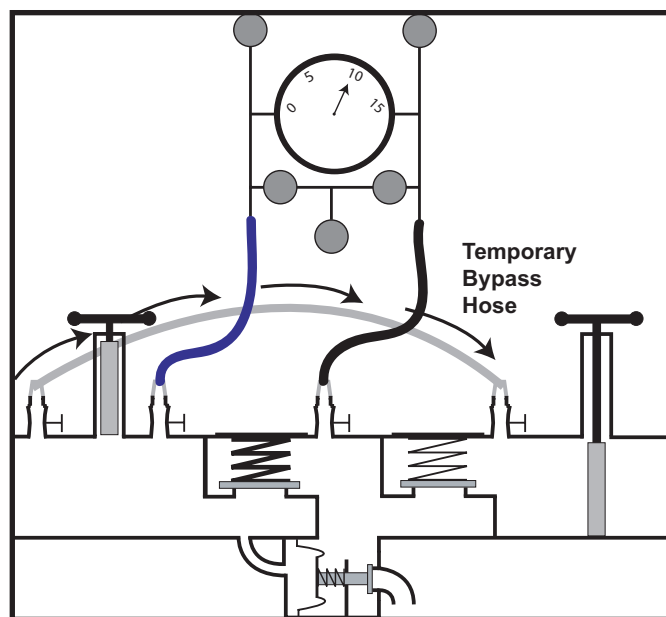

Fig. 9.2- Compensation for No. 2 Shutoff Valve Leak
9.2.1.3.4 Instructions for Leaking No. 2 Shutoff Valve (See Fig. 9.2)